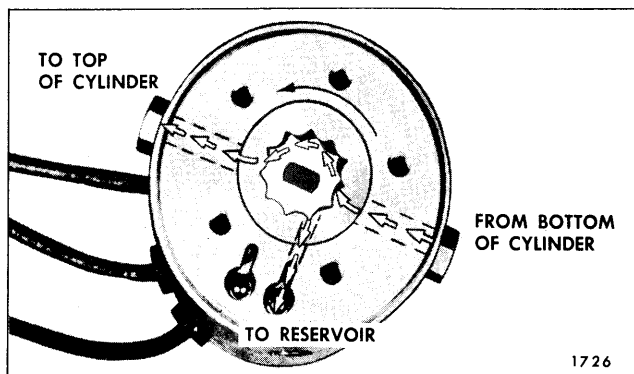

Fig. 6-63—Operation Of Pump To Lower Top
- Lowering the Top.** When the green motor lead is energized the motor drive shaft turns the rotors counterclockwise as indicated by the large arrow in Figure 6-63. The action of the pump rotors forces the fluid under pressure to the top of each cylinder. This action causes the fluid below the piston in each cylinder to be forced into the pump which recirculates the fluid to the top of each cylinder. The surplus hydraulic fluid due to piston rod displacement flows into the reservoir.